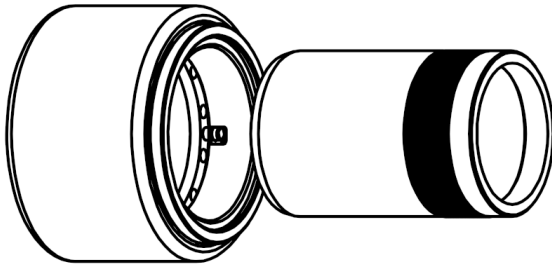

Figure 11
3. Slide the chamfered end of the seal sleeve into the seal driver assembly as seen in Figure 11. If your pump does not come with a seal flush the shaft sleeve will not have a coated band at the opposite end of the sleeve.